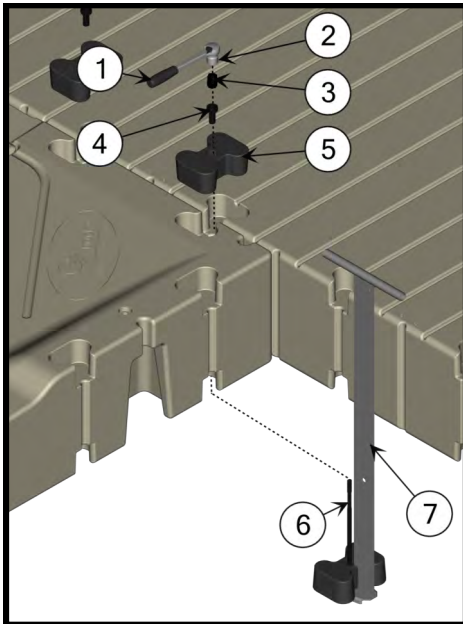

Figure 11.
4. Align the EZ Dock dock sections and the EZ Port MAX so coupler pockets are adjacent to each other (Figure 11).
5. Using the in-water installation tool (Item 7), insert the coupler and bolt assembly into the bottom pocket with the bolt pointing upward (Figure 11).